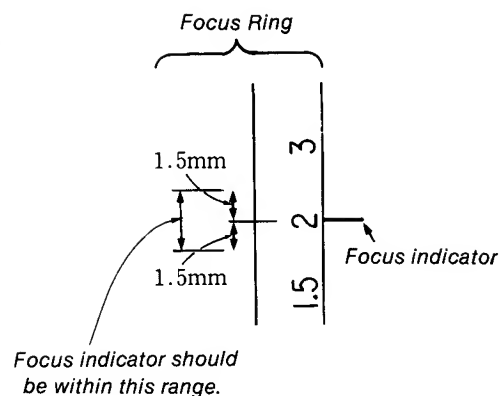

Fig. 7-46.
- 3) Turn focus ring so that it becomes into focus. Confirm at this time that the focus indicator is within the specified position as shown in Fig. 7-46. In addition, memorize the position of the focus indicator. (If the specifications are not satisfied, perform flange back adjustment.)